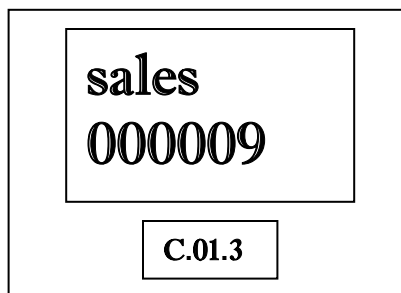

Figure 52
1. Press the **ENTER** button. The main display shows the total sales amount. The sales counter is incremented each time a sale is run on the nozzle. See Figure 52.